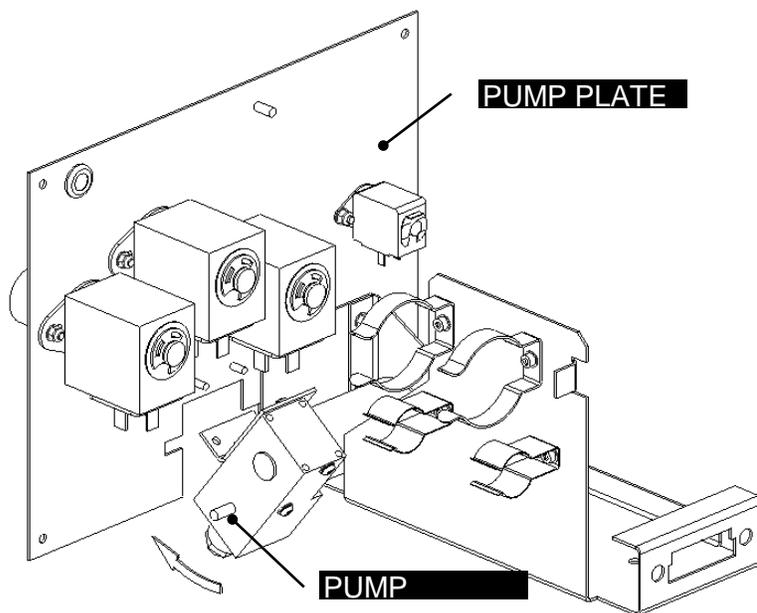

Figure 10-9: Inserting the Dispense Pump
2. Attach it to the pump plate by sliding the body of the motor between the support bracket and the pump plate (Figure 10-9).